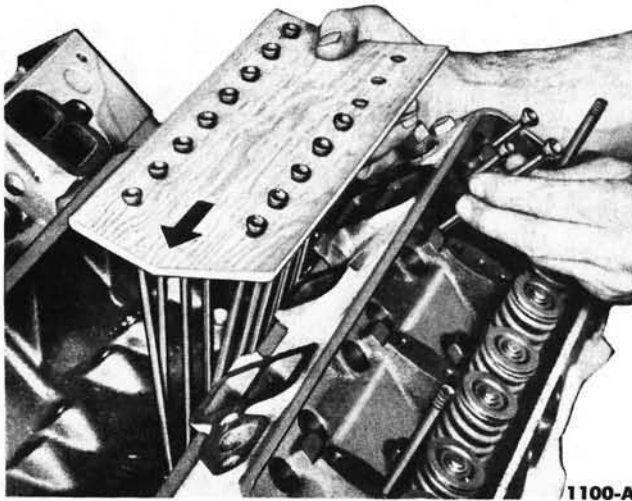

FIG. 18—Valve Push Rod Removal
3. Remove and identify the valve push rods so they can be replaced in the correct positions (Fig. 18).